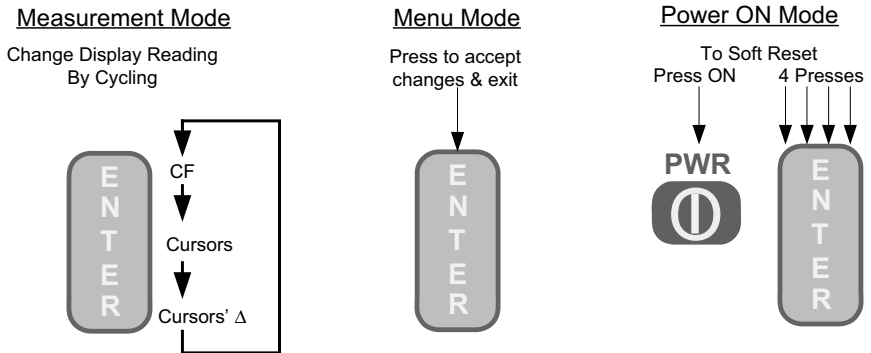

Figure 2-19
**ENTER** key has three distinct functions: In the Function Menus **ENTER** is a single action key that accepts the changes and exits the menu level or exits back to the measurement screen depending on the action. When in the measurement screen, **ENTER** is a cyclic action key. Successive presses will cycle the VIA Echo through Center Frequency (CF) Mode, Cursor Mode and Cursor Differential Mode. It also serves as a soft reset key during the Power ON. A soft reset is used to recover the firmware processor's normal instruction execution sequence in the rare event that it should become hung up. Press the **Power ON** key and then press the **ENTER** key repeated 4-5 times as the unit powers up. A normal recovery is indicated by the splash screen followed by the calibration screen and measurement screens appearing normally. However, the instrument will now be reset to factory default settings and a saved setting may need to be recalled to restore the desired settings. Figure 2-19 represents operation of the **ENTER** key's three modes.